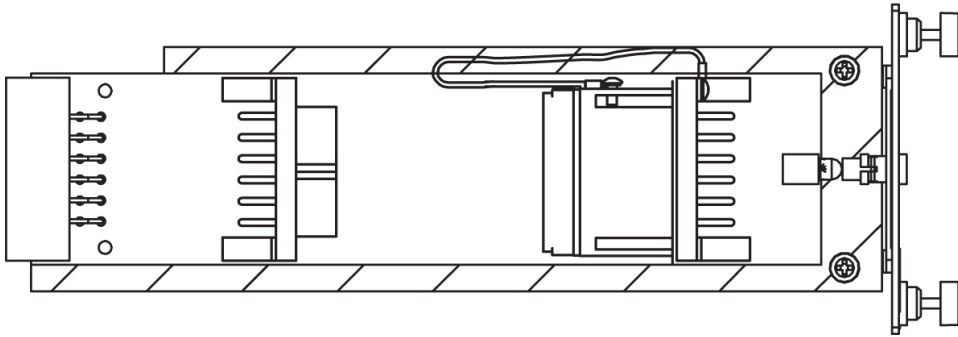

Figure 45: Jumper Connector - Maintenance Mode.
4. On the jumper circuit board, unclip the 12-pin connector jumper from P71 and re-attach it to P72. Insert it until the plastic retaining clips “snap”. See Figure 45: Jumper Connector - Maintenance Mode. Note that the jumper has a retaining strap so it will not get dropped or lost. This repositioning overrides the diodes, establishing a direct connection between the input and fuse panels.